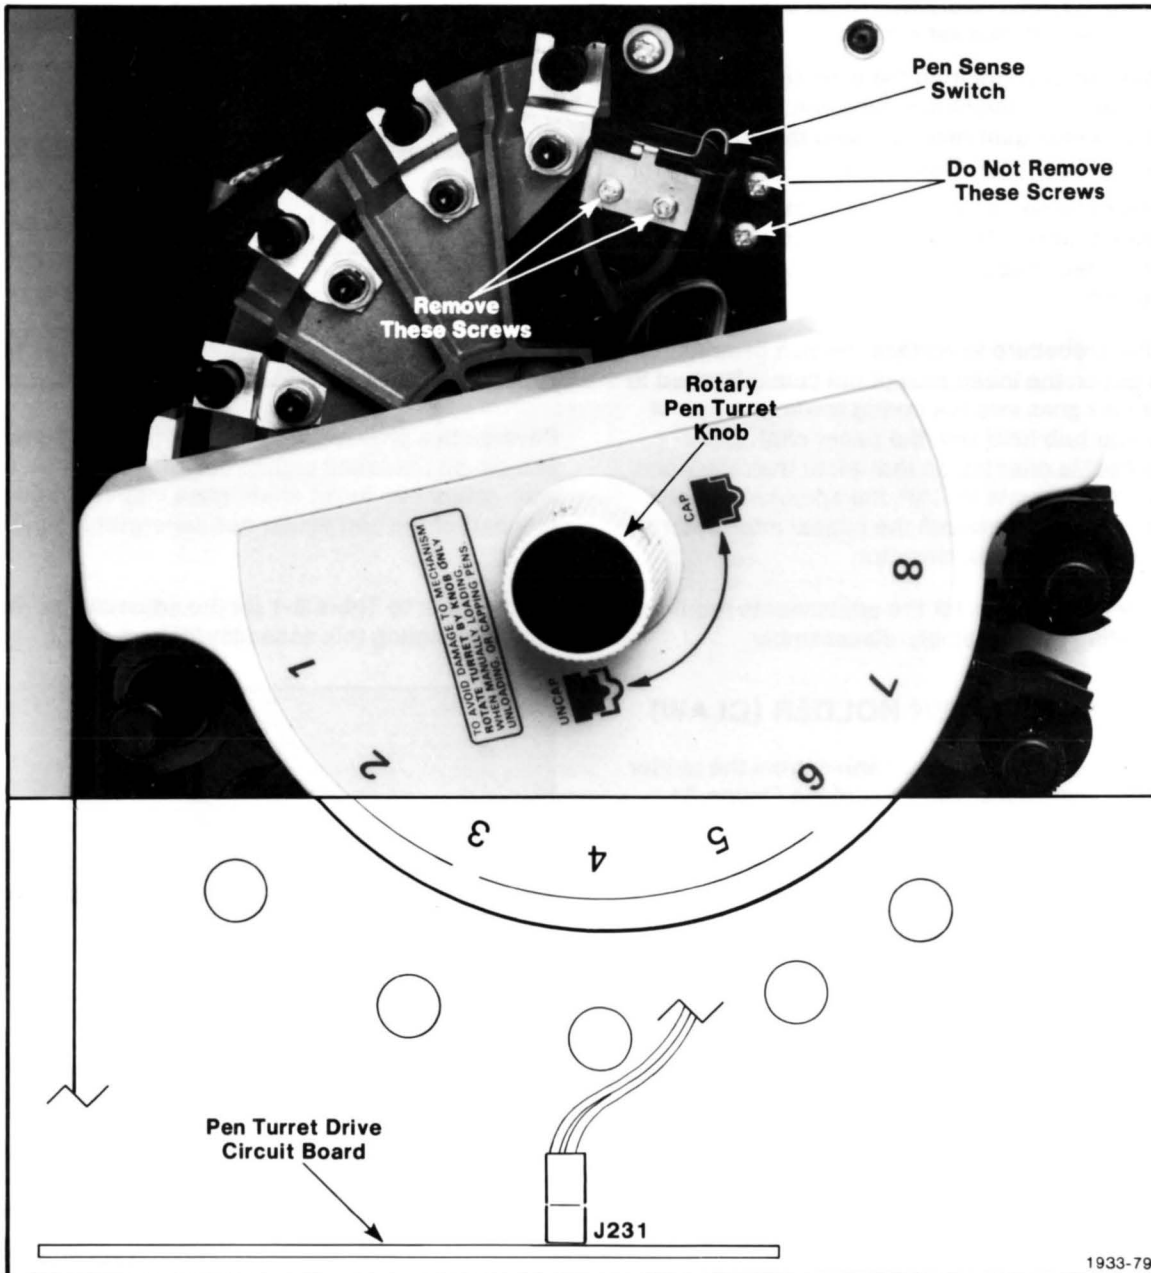

Figure 3-19. Pen Sense Switch Mounting Detail.
1. **Turn** the rotary pen knob fully clockwise to expose the pen sense switch (see Figure 3-19).